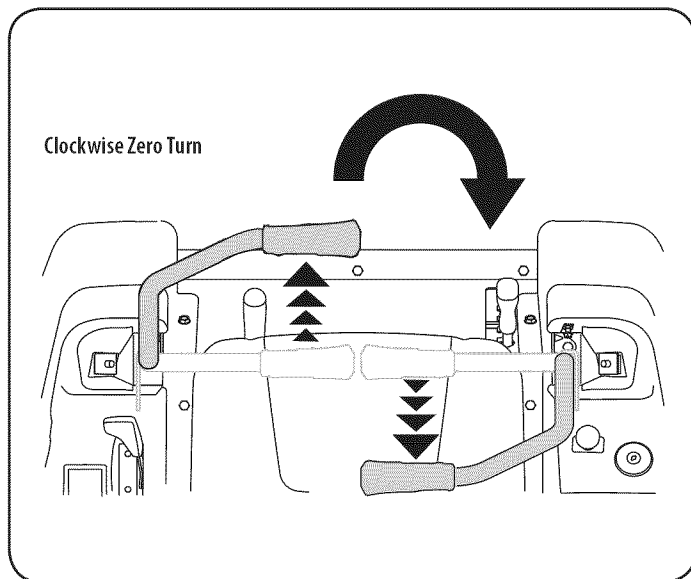

Figure 21
2. To turn clockwise, move the left control lever forward while simultaneously moving the right control lever rearward. See Figure 21.